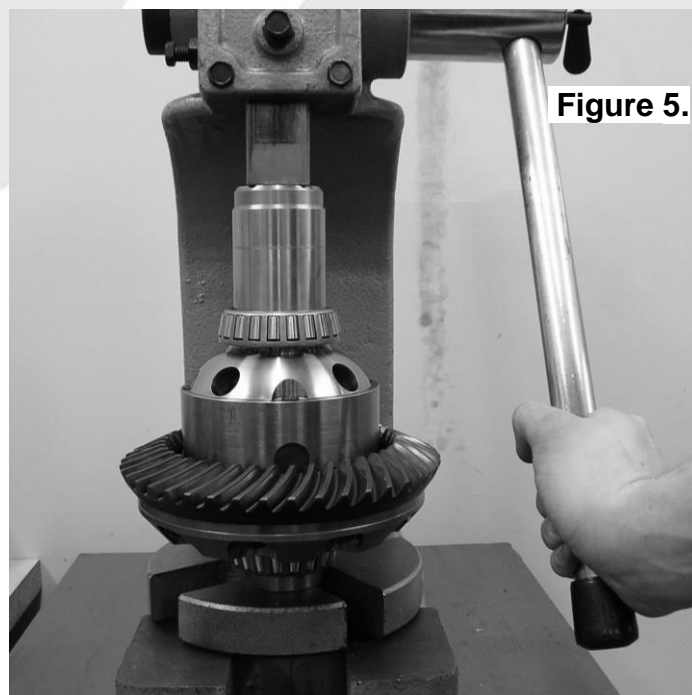

Figure 5.
- Apply a thin film of high pressure grease to the bearing journals of the *Air Locker*, then press the bearing cones onto the bearing journals as shown in Figure 5.